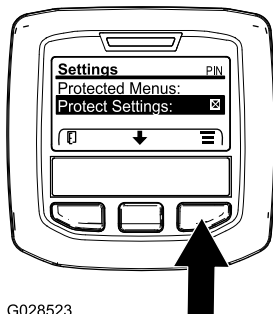

Figure 25
1. From the MAIN MENU, use the center button to scroll down to the SETTINGS MENU and press the right button (Figure 25).